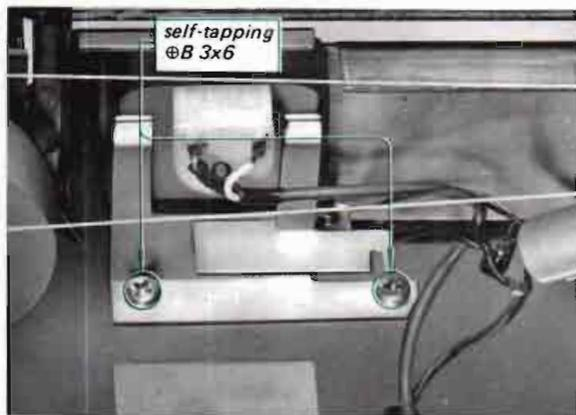

Fig. 2-13. Meter holder removal
1. Remove the two self-tapping screws ($\oplus B 3 \times 6$) securing the meter holder to the chassis as shown in Fig. 2-13.
3. Remove the two self-tapping screws ($\oplus B 3 \times 6$) securing the meter holder to the chassis as shown in Fig. 2-13.